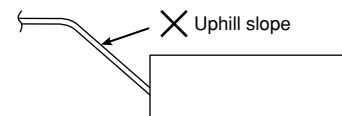

Fig. 6-8
- Do not install the pipe with an upward gradient from the connection port. This will cause the drain water to flow backward and leak when the unit is not operating. (Fig. 6-8)